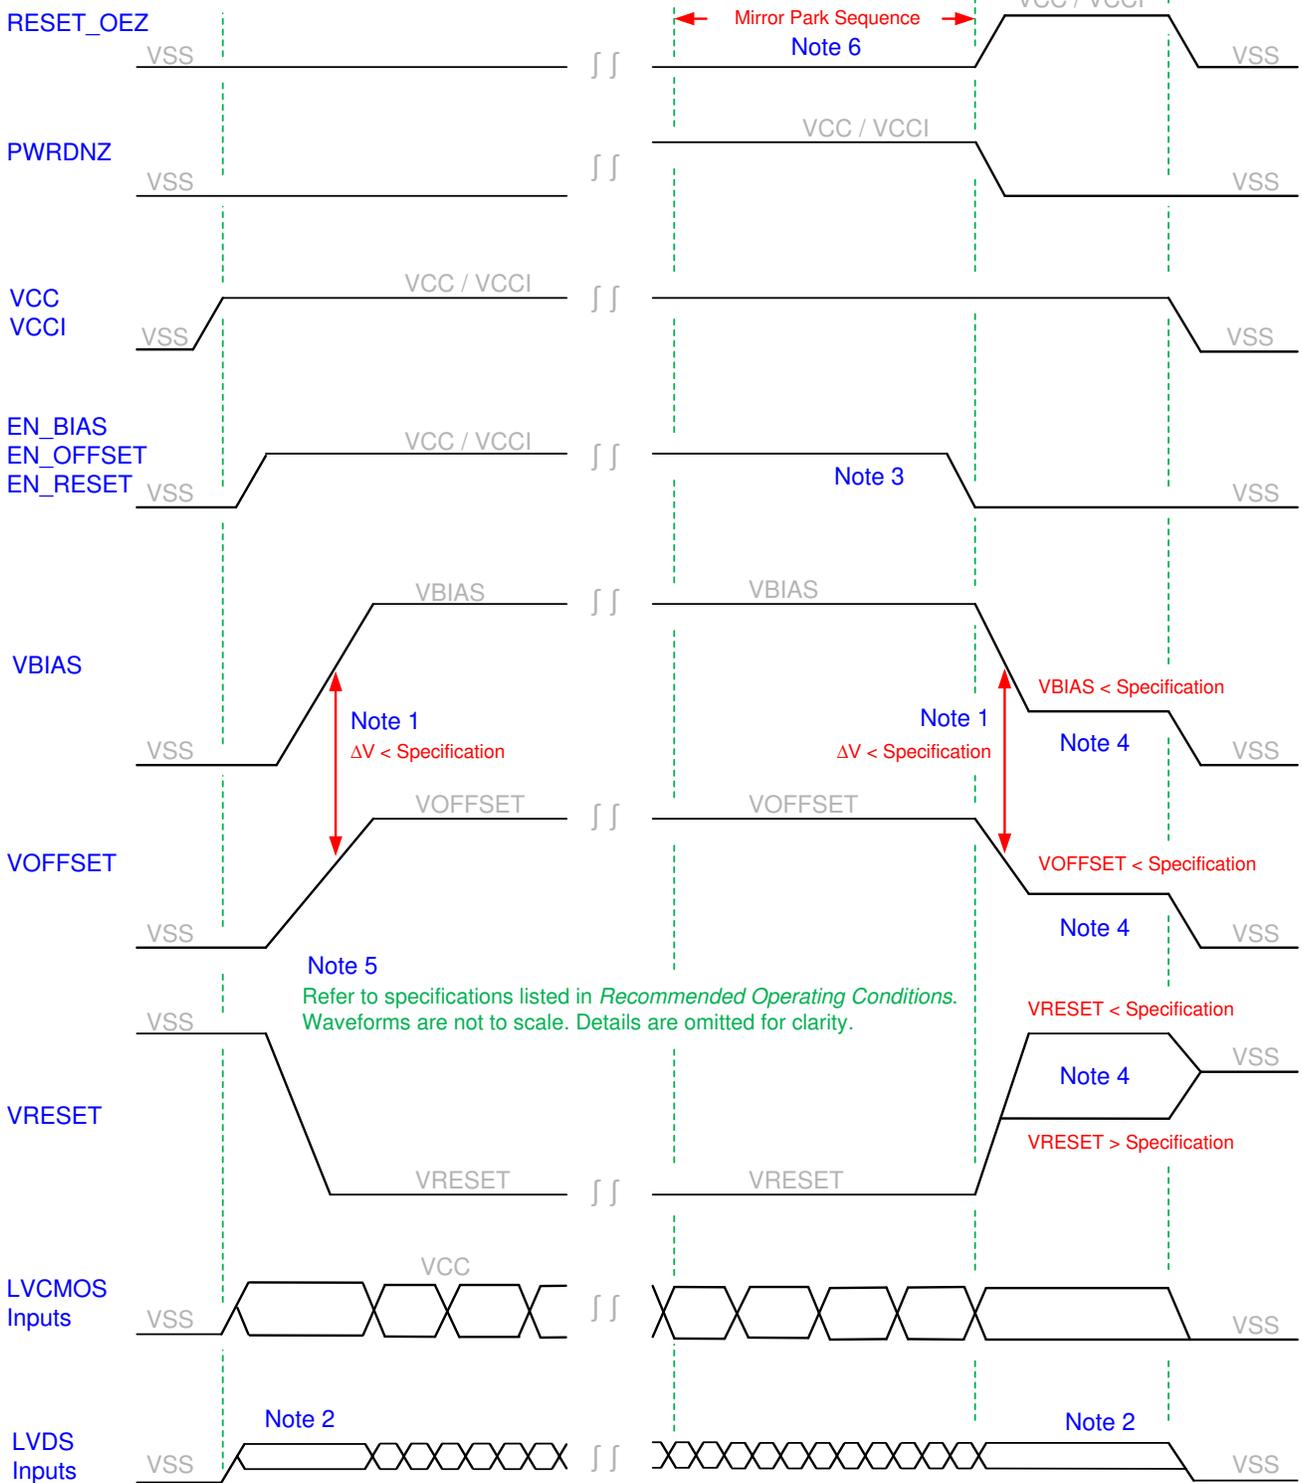

Figure 9-1. DMD Power Supply Sequencing Requirements
For reliable operation of the DMD, the following power supply sequencing requirements must be followed. Failure to adhere to the prescribed power-up and power-down procedures may affect device reliability. VCC, VCCI, VOFFSET, VBIAS, and VRESET power supplies have to be coordinated during power-up and power-down operations. VSS must also be connected. Failure to meet any of the below requirements results in a significant reduction in the DMD's reliability and lifetime. Refer to Figure 9-1.
- Power supply slew rates during power-down are flexible, provided that the transient voltage levels follow the requirements listed in Absolute Maximum Ratings, in Recommended Operating Conditions, and in Figure 9-1.